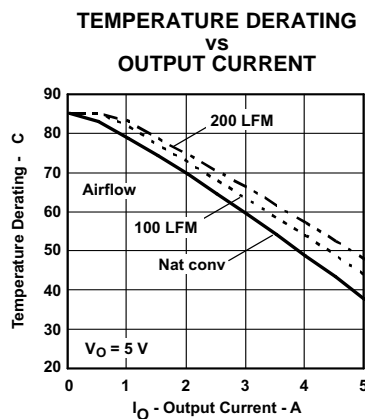
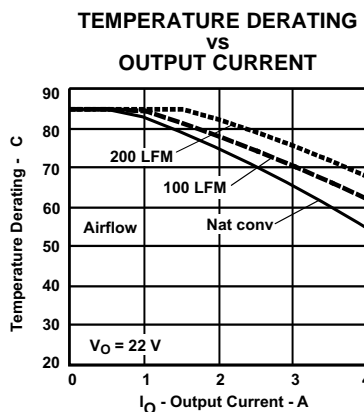

Figure 20.
Figure 23.
- (2) The temperature derating curves represent the conditions at which internal components are at or below the manufacturer's maximum operating temperatures. Derating limits apply to modules soldered directly to a 100 mm x 100 mm double-sided PCB with 2 oz. copper. Applies to Figure 20 through Figure 23.